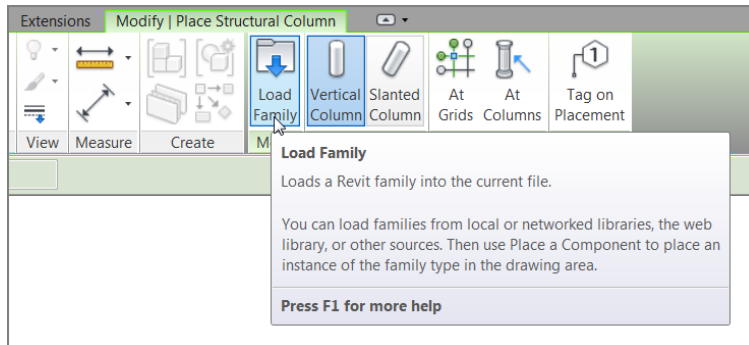

FIGURE 8.22: You can click the Load Family button to add additional columns to your project.
4. Click the Load Family button, as shown in Figure 8.22.